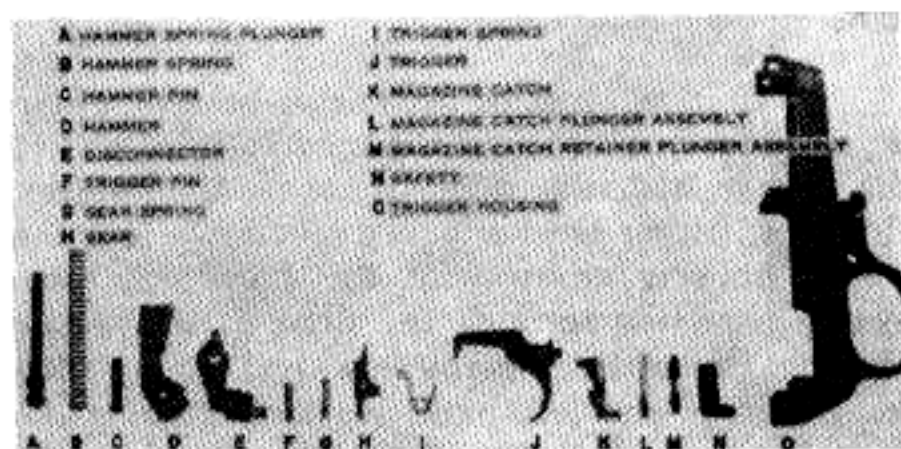

Figure 25. Layout of the parts of the trigger housing group.
*g.* In Figure 25, you see the parts of the trigger housing group laid out correctly in the order of disassembly.